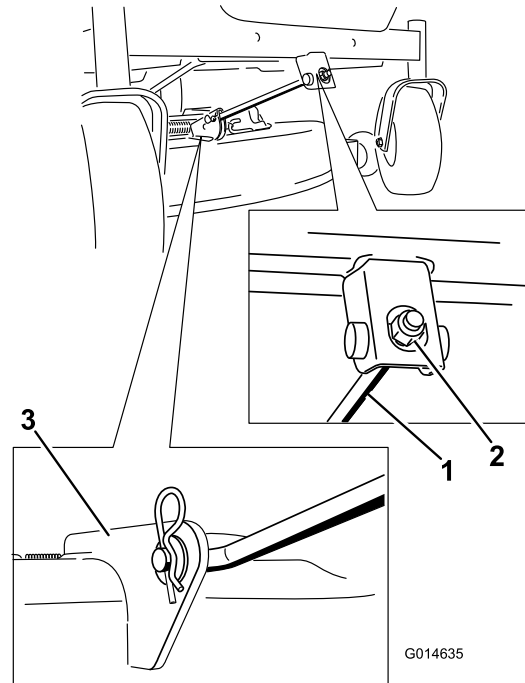

Figure 54
4. Remove the hairpin cotter from the front support rod and remove the rod from the deck bracket (Figure 54). Carefully lower the front of the mower deck to the ground.
6. Attach the front support rod to the mower deck with the clevis pin and hairpin-cotter pin (Figure 54).